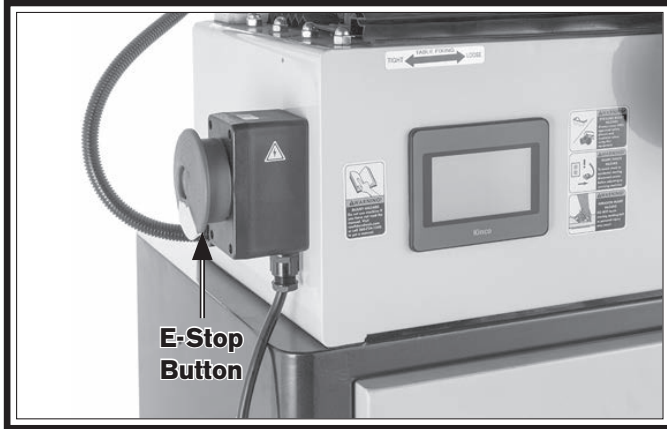

Figure 29. Location of cabinet E-Stop button.
2. Press both E-Stop buttons in (see **Figures 29–30**).